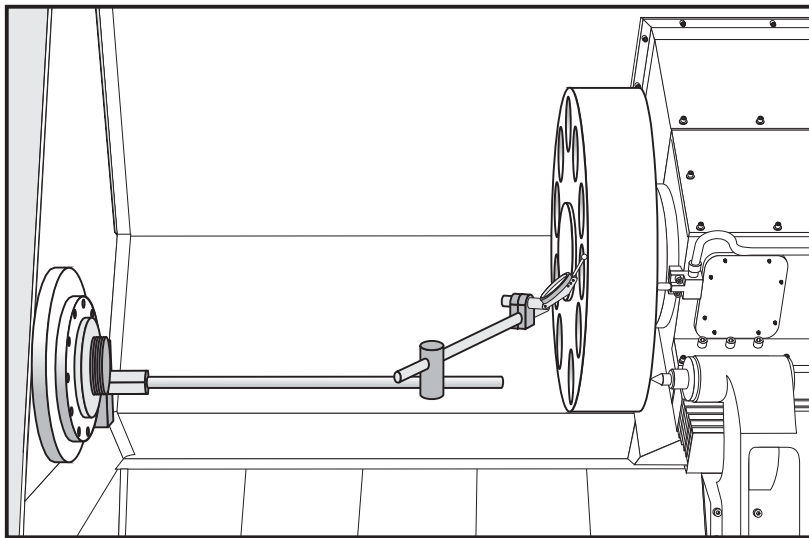

Fig. 1-2 Dial indicator in position to check Z-axis.
1. Place a dial indicator and base on the spindle retaining ring with the indicator tip positioned on the face of the turret as shown in Fig. 1-2.